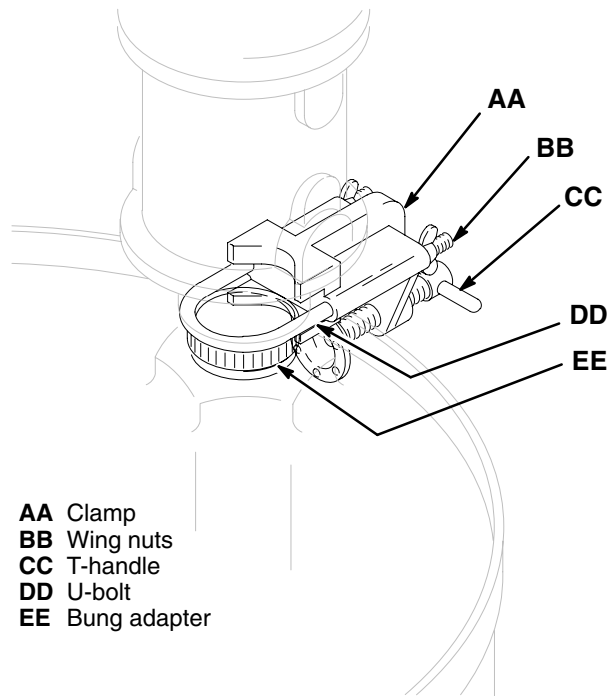

Fig. 7
2. Screw the bung adapter (EE) into the bung hole.
3. Loosen the wing nuts (BB) and slide the clamp (AA) onto the pump riser tube, up to the base. See Fig. 7.
4. Holding the clamp onto the pump, insert the pump riser tube through the bung adapter, and lower the pump until the clamp rests on the edge of the drum. See Fig. 7.
5. Install the sturdi-clamp so its upper jaw fits against the pump base projection, its u-bolt (DD) fits around the riser tube, and its lower jaw fits against the bung adapter. Tighten the wing nuts (BB). See Fig. 7.
6. Tighten the T-handle (CC) firmly to the side of the drum.